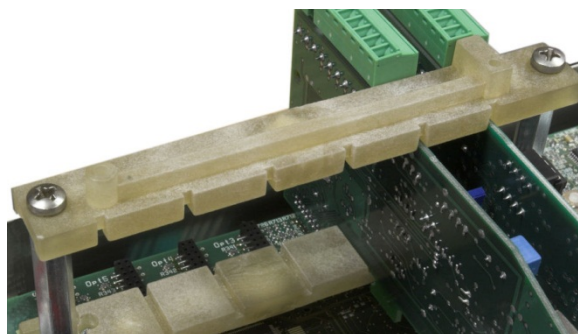

Figure 3-51: Upper Card Guide
9. Remove the two screws attaching the upper card guide, shown in Figure 3-51, and lift the guide from its stand-offs.
1. Loosen and remove the screws holding the upper card guide (Figure 3-51) in place on its stand-offs.
5. Replace the upper card guide, taking care to position the upper edge of the option board/s in the slot/s in the upper guide (see Figure 3-51).